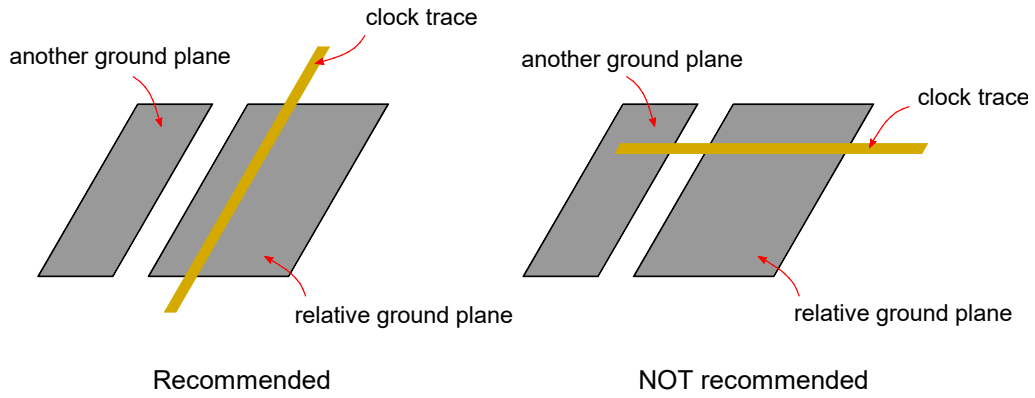

Figure 8: Clock trace layout in relation to the ground plane
- Clock traces should be parallel to their reference ground planes. That is, a clock trace should be right beneath or on top of its reference ground plane (see Figure 8).